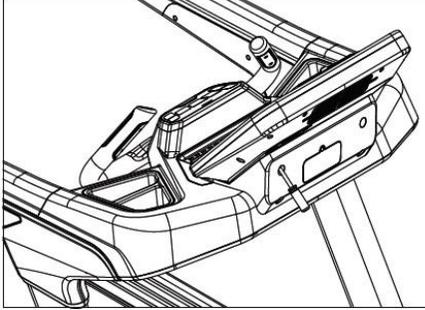

Figure 4.1.1
4.1.1 As shown in Figure 4.1.1, use the screwdriver to remove the LED chin cover 4 umbrella head screws.